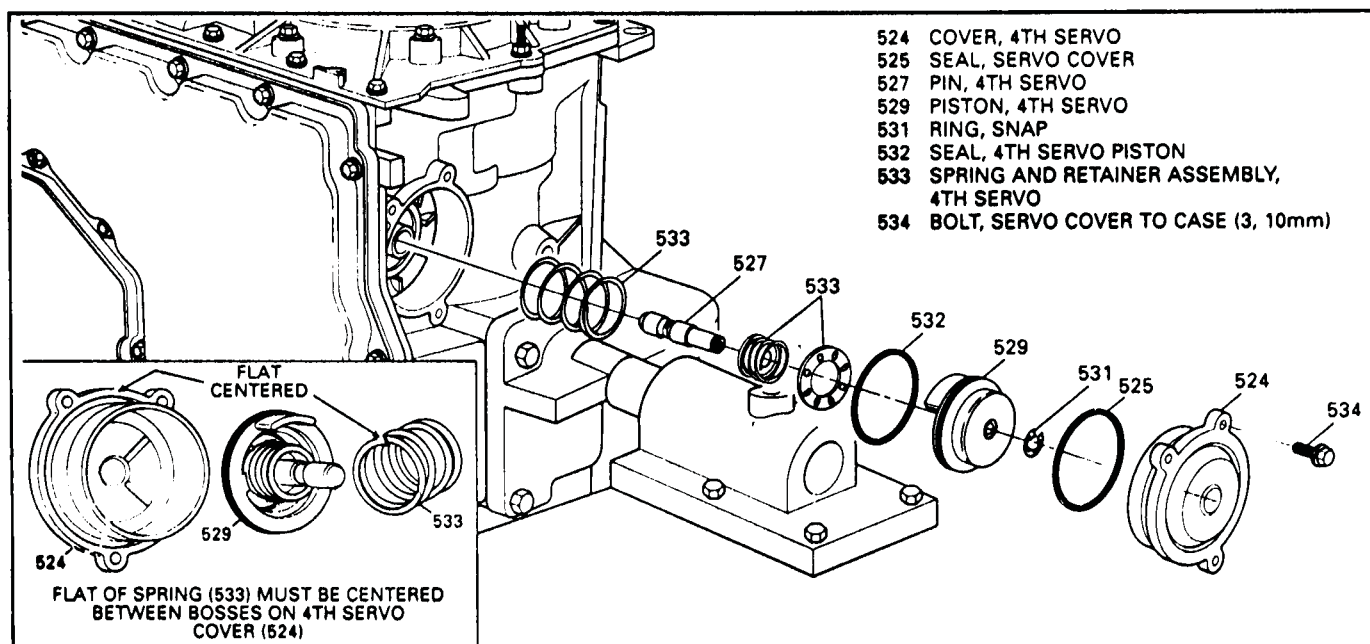

Figure 41
11. Remove the three 10mm retaining bolts from the overdrive servo cover (See Figure 41).
12. Remove the servo cover and overdrive servo assembly as shown Figure 41.